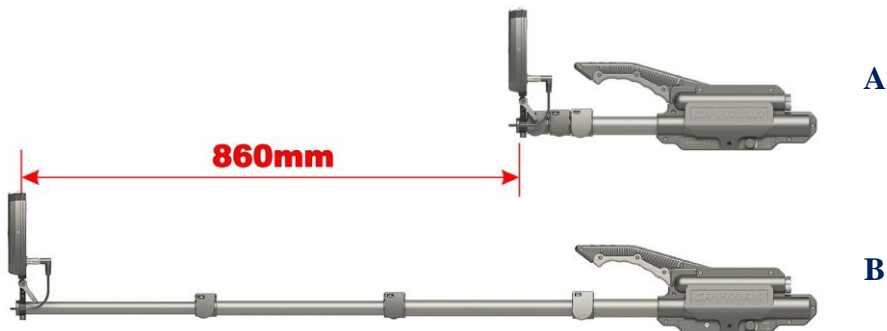

Fig. 6
Inside the telescopic arm there is a twisted cable connecting the antenna module with the power and control units located in the main unit. Figure 6 shows the ST 400 with the telescopic arm folded (A) and maximally extended (B).